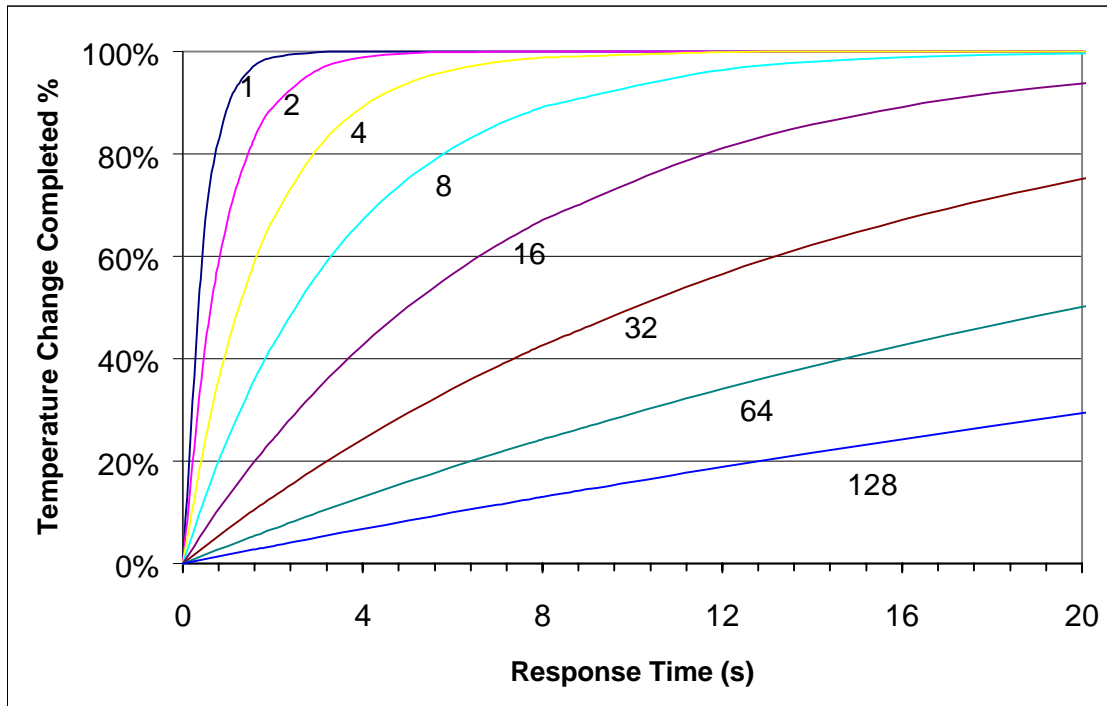

Figure 4.1 – Digital Filtering
4.1.1 The digital filtering sets the update time of the module as shown in the Figure 4.1.